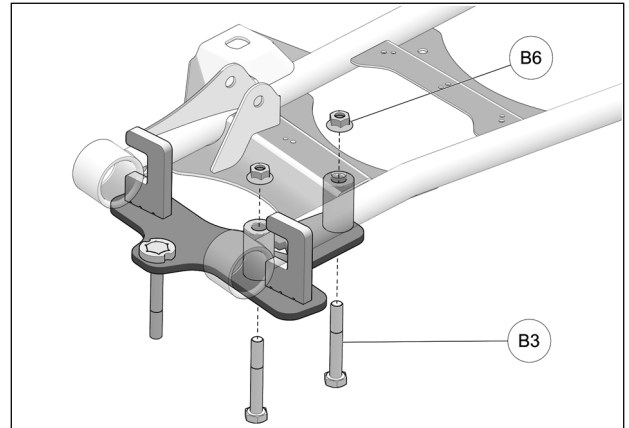

Fig. 8
8. Insert M10x70 mm bolts (**B3**) through anchor bracket and spacer bushings, and also through hole in suspension arm reinforcing plate to secure the back of the bracket. Use the flange nuts (**B6**) provided to assemble the parts together. Torque to 50 N•m [37 lb•ft]. See Fig. 8